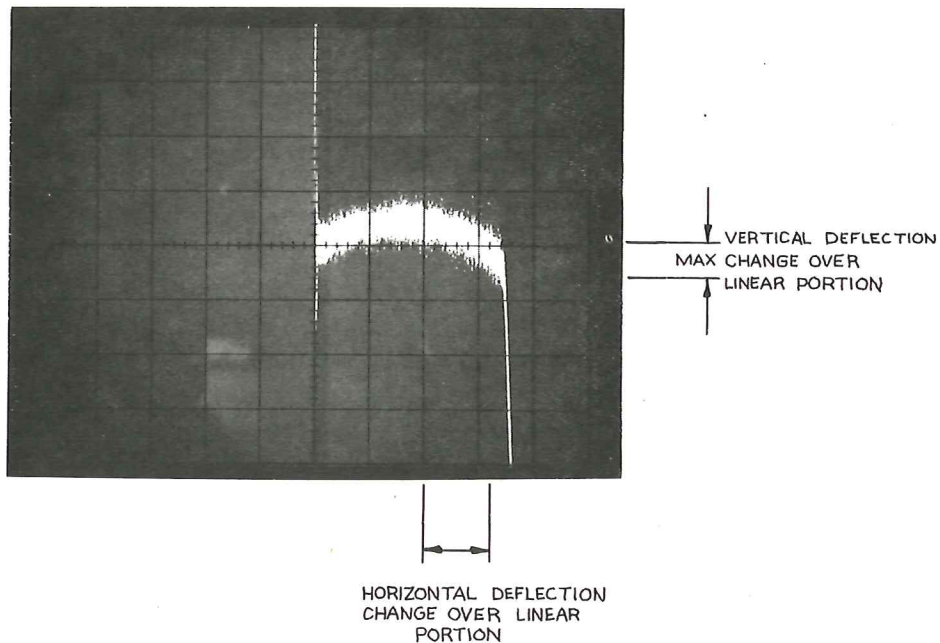

Figure 11. Typical display of large-signal voltage gain.
- Increase SWEEP AMPLITUDE until one full sweep is displayed horizontally; see note 1 and Fig. 11. Calculate gain from horizontal voltage change divided by vertical voltage change.